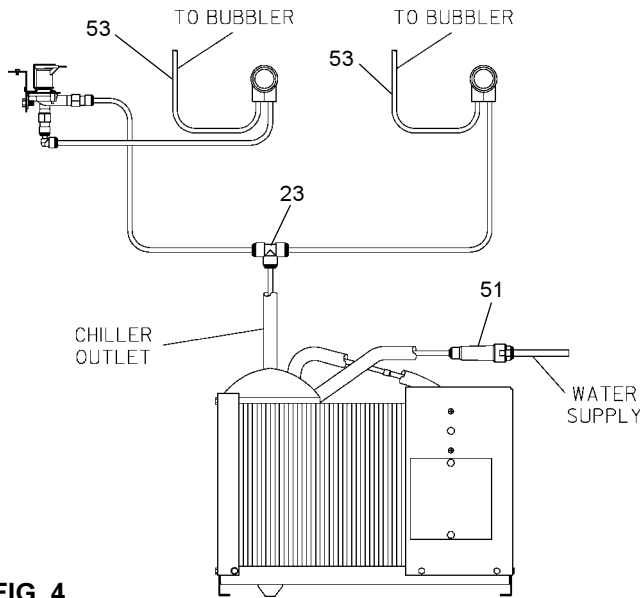

FIG. 4
5. **Place refrigeration package inside mounting box** and connect water outlet tube on refrigeration package to water in tube on regulator holder (item 10) with tubing and fitting provided. See figure 4.